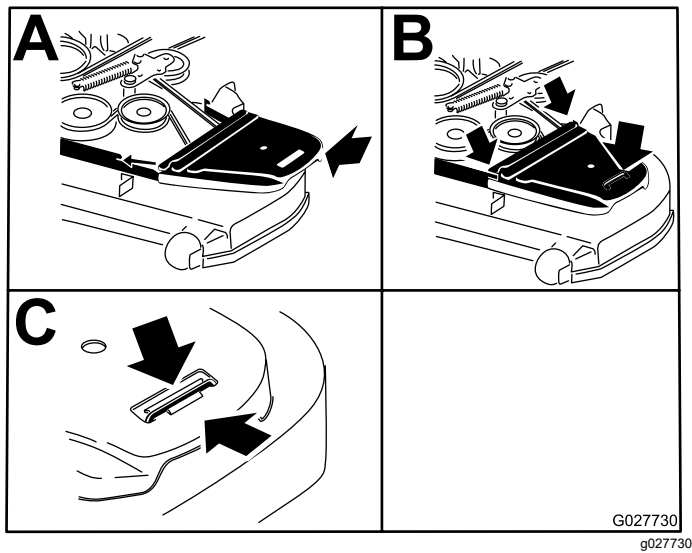

Figure 87
12. Install the belt covers (Figure 87).